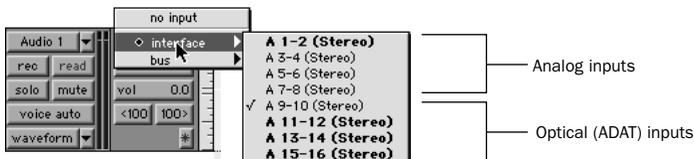

Figure 8. Routing an Optical input pair to a stereo track
- 4 Assign Pro Tools track inputs. For each track, click its Input selector and assign Inputs 9–16 to your eight tracks, or however many inputs you plan to record. See Figure 8 below.